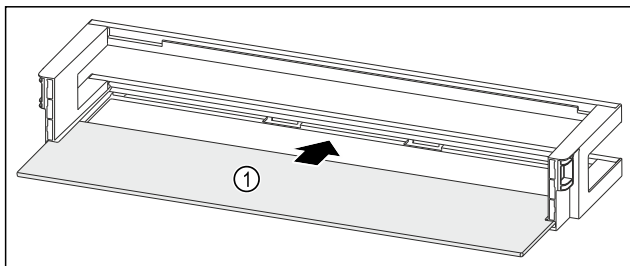

Fig. 188 Door rack with shelf
- ▶ Push the shelf Fig. 188 (1) into the side recesses.